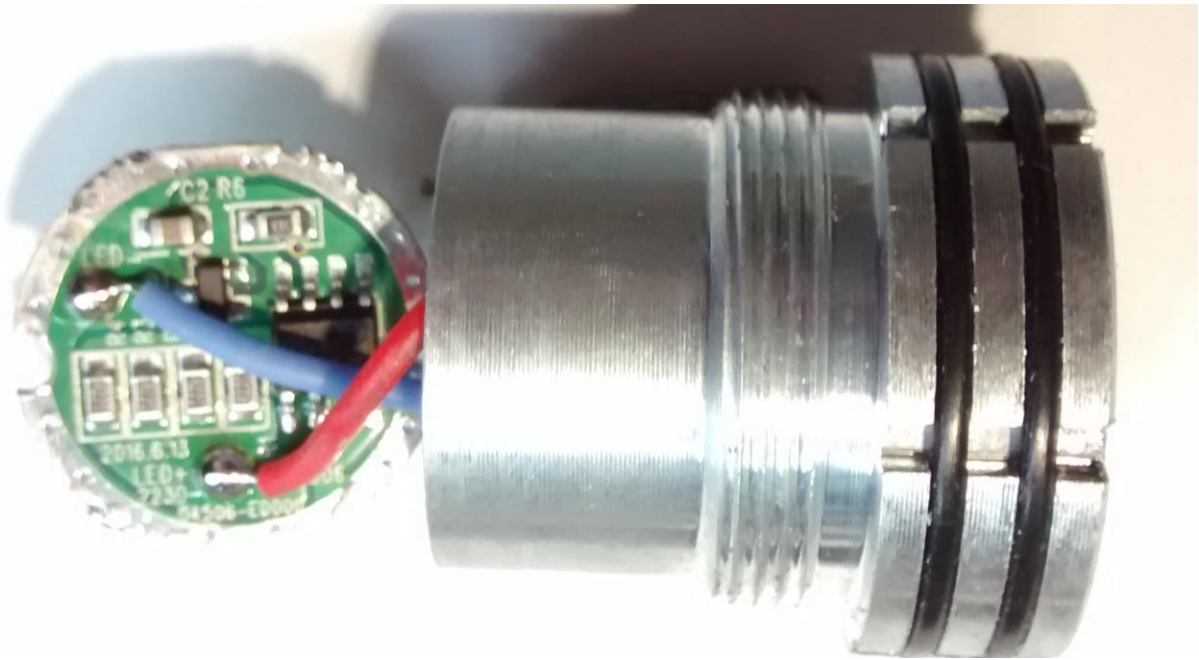
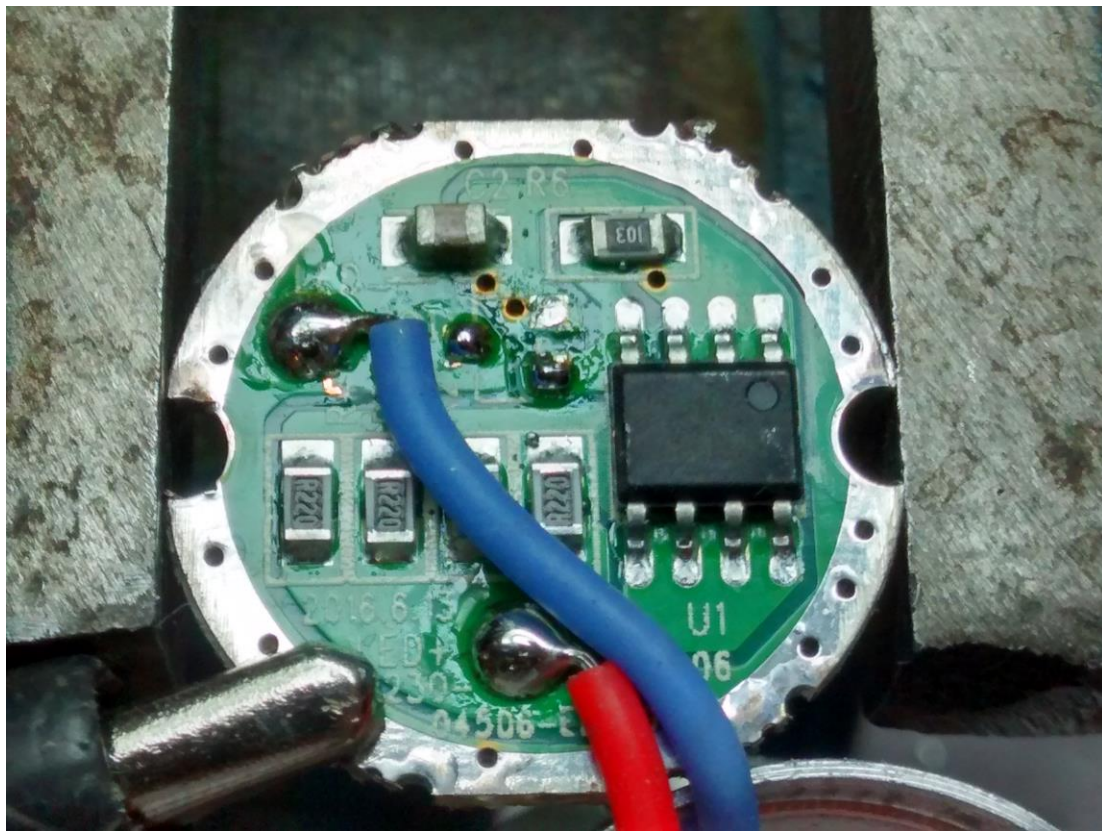

Figure 4 PCB Removed from LED Assembly
Figure 5 PCB with Surface Mount Part Removed
- Pry out the PCB from the back end of the LED assembly as shown in figure 4.
-Remove the 3 leaded SOT-523 surface mount part shown near the middle of the PCB in figure 4 and add solder to 2 of the now empty pads as shown in figure 5.
The PCB can now be reinstalled in the base of the LED assembly shown in figure 4. Once the PCB is re-installed I removed the spring contact that was soldered to the bottom in figure 7. I then attached 2 wires to the bottom that will be used for the 5 Volt power supply feed.